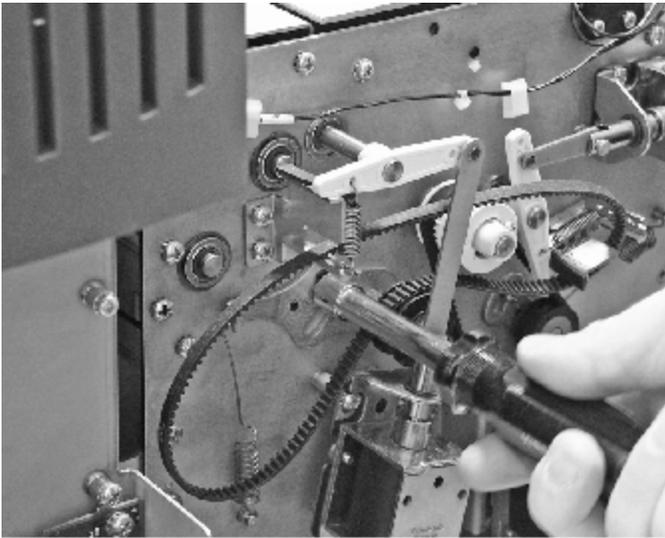

Figure 18 HCSF Drive Belt Tensioner
- a. Loosen the tensioner for the HCSF drive belt. Note that the belt is hanging loose. See Figure 18.